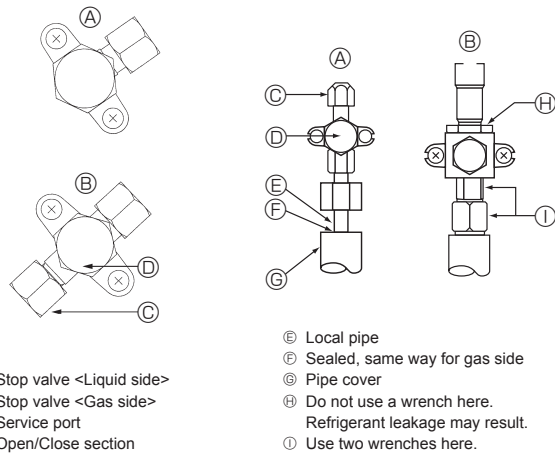

Fig. 4-5
- ① Perform refrigerant piping connections for the indoor/outdoor unit when the outdoor unit's stop valve is completely closed.
- ② Vacuum-purge air from the indoor unit and the connection piping.
- ③ After connecting the refrigerant pipes, check the connected pipes and the indoor unit for gas leaks. (Refer to 4.4. Refrigerant pipe airtight testing method)
- ④ A high-performance vacuum pump is used at the stop valve service port to maintain a vacuum for an adequate time (at least one hour after reaching -101 kPa (5 Torr)) in order to vacuum dry the inside of the pipes. Always check the degree of vacuum at the gauge manifold. If there is any moisture left in the pipe, the degree of vacuum is sometimes not reached with short-time vacuum application. After vacuum drying, completely open the stop valves (both liquid and gas) for the outdoor unit. This completely links the indoor and outdoor refrigerant circuits.
- ⑤ Use sealant to seal the ends of the thermal insulation around the pipe connection sections to prevent water from entering the thermal insulation.
4.4. Refrigerant pipe airtight testing method (Fig. 4-5)